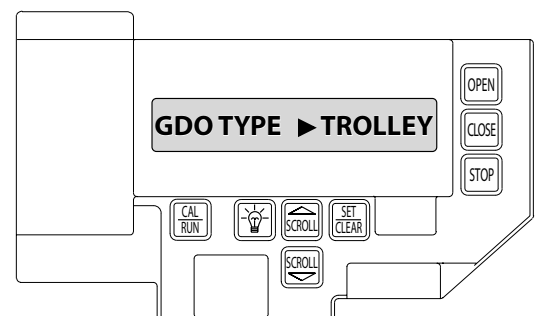

Fig. 3
- 2) Press SCROLL until display reads "GDO TYPE > ." Fig. 3